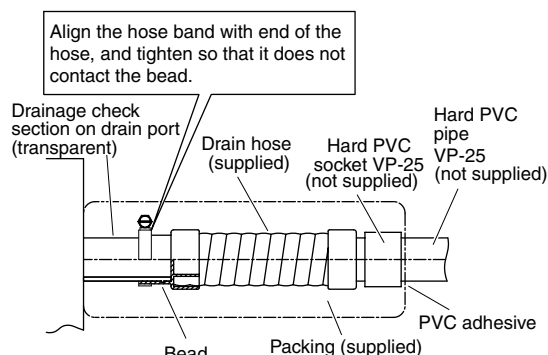

Fig. 3-62
The PVC pipe must be purchased separately. The unit's transparent drain port allows you to check drainage. (Fig. 3-62)
- Tighten the hose clamps so their locking nuts face upward. (Fig. 3-62)